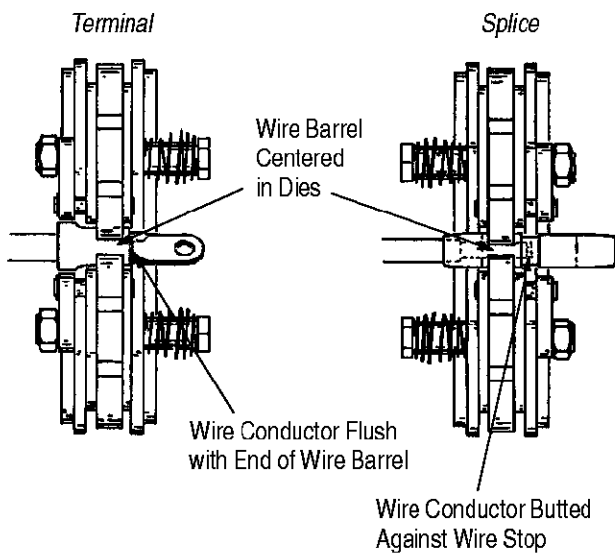

Figure 3
3.3. Single Crimp for Terminals and Splices with Wire Sizes 8 through 2 AWG (Figure 3)